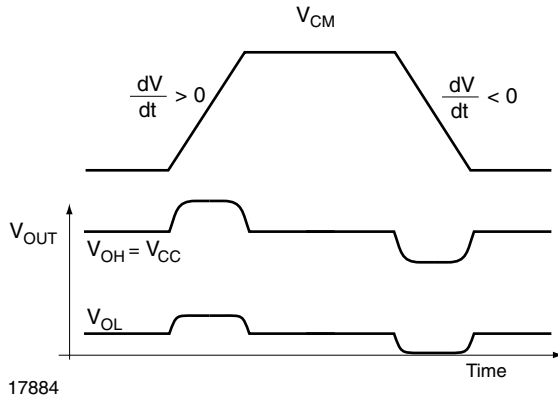

Fig. 8 - Common Mode Pulse and the Distorted Output Signal
In the state where the LED is on, the above considerations are also valid (equations (1) to (4)). However, as figure 8 indicates, the critical point is now the rising edge of the transient. Equation (4) shows that a low  $r_{CE}$  (transistor highly saturated) makes this case much more robust to any transients, compared to the LED off state.